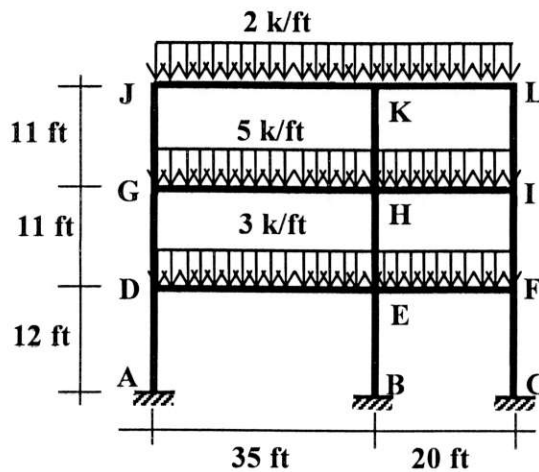

Figure 1
- [1] What are the assumptions for the vertical load analysis? Draw the Shear Force & Bending Moment Diagram of the beams shown in Figure 1?